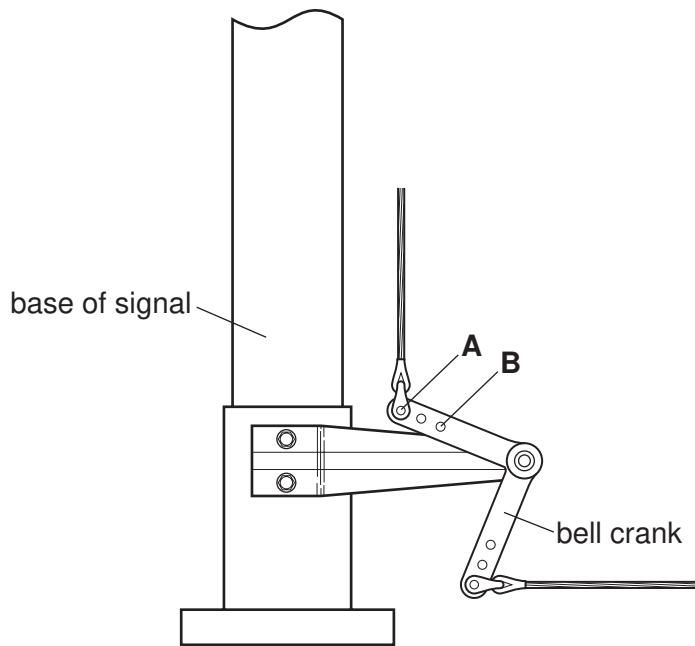

Fig. 18
- (f) Fig. 18 shows a railway signal and the bell crank lever used to operate it.